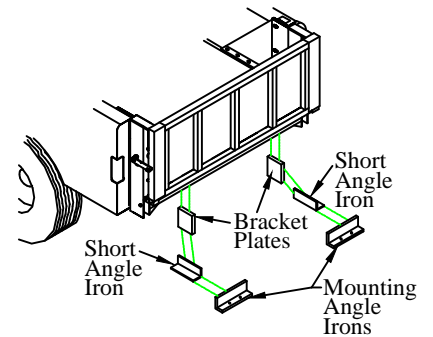

Figure 13: Lower bracket support.
- 2. Bolt** the bracket plates to the truck frame (Figure 13).